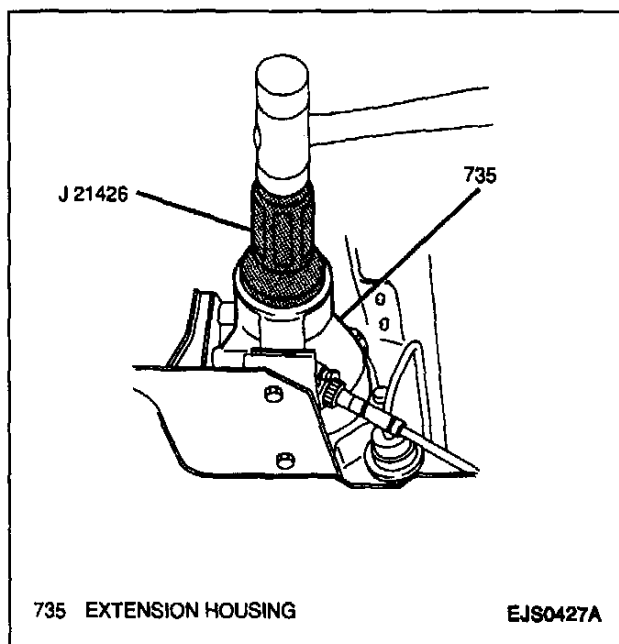

Figure 51—Installing Extension Housing Seal (3L30, 3-Speed)
2. New extension housing seal using a J 21426 (Figure 51).